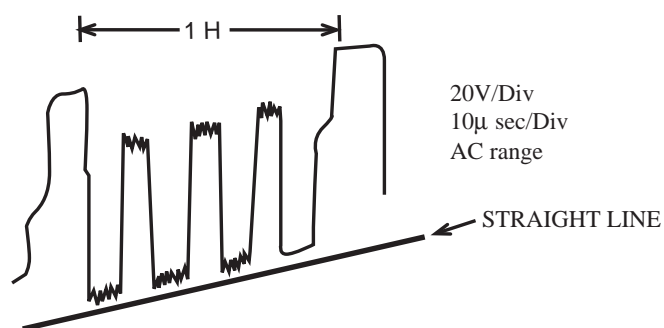

Fig. 2-5
- (1) Receive an NTSC 3.58 MHz color bar signal.
- (2) Connect an oscilloscope to Q903 Collector (on the NK C.B.).
- (3) Adjust SFR303 so the bottom edges of the waveform fall on one line. (See figure 2-5)